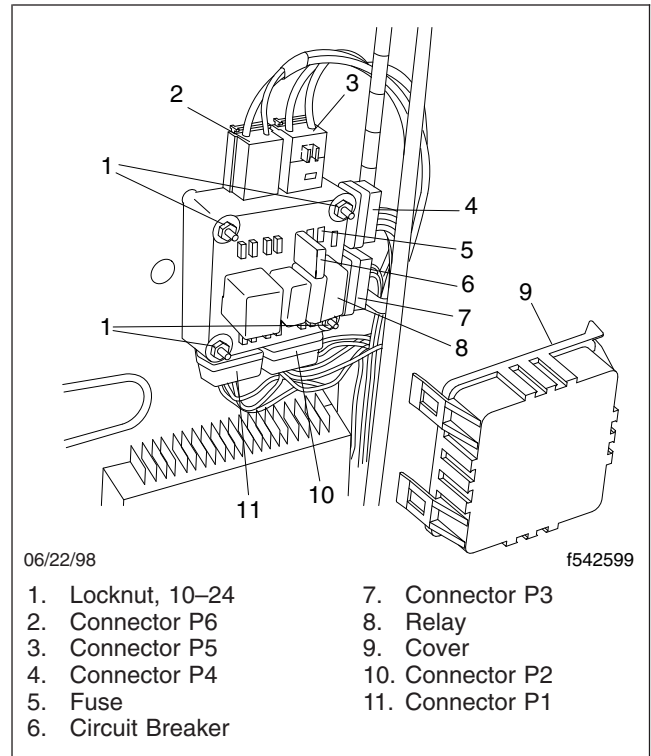

Fig. 1, Auxiliary Power Distribution Module
3. Remove the auxiliary power distribution module. See Fig. 1.
1. Install the auxiliary power distribution module onto the left-hand B-pillar electrical compartment door. See Fig. 1.
For circuit breaker and relay locations on the main power distribution module (PDM), see Fig. 1.